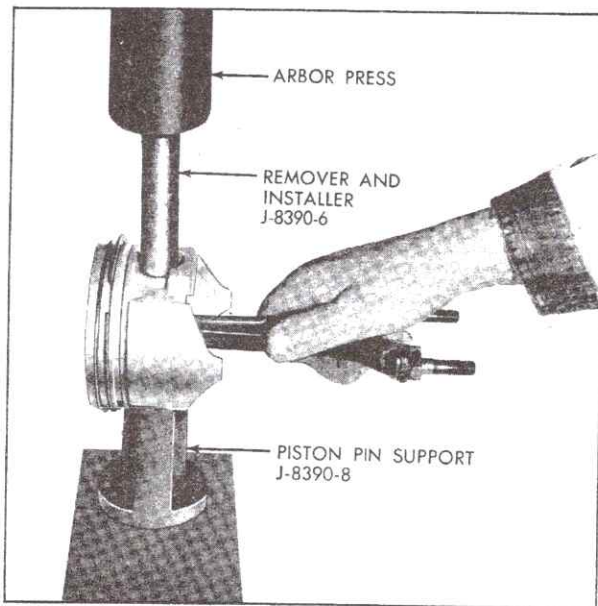

Fig. 6-141 Piston Pin Removal
2. Position piston and connecting rod assembly on support with side of piston marked with the letter "R" upward, Fig. 6-141.